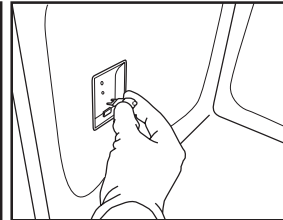

Fig. 8
4. Replace the lamp (see note for lamp type). (Fig. 8)